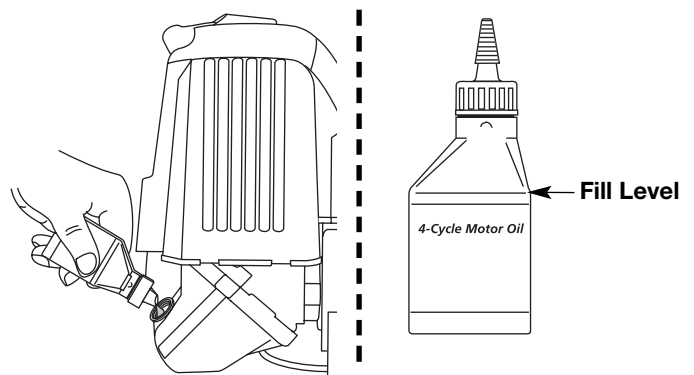

Figure 29
**NOTE:** Use the bottle and spout saved from initial use to measure the correct amount of oil. The top of the label on the bottle measures approximately 3.04 ounces (90 ml). Check the level with the dipstick. If the level is low, add a small amount of oil and recheck. Do not overfill. See Figure 29.